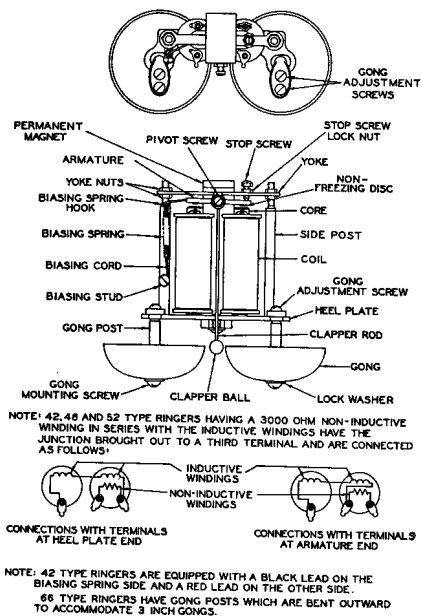

Fig. 1 - Typical Numbered Ringers
- 1.02 Each ringer consists of a cast, non-magnetic, alloy frame on which all the component parts are mounted. A typical ringer is illustrated in Figure 1. A laminated soft-iron core carries the single coil and is clamped to the soft-iron yoke which is bolted to the frame. The armature and clapper assembly is spring mounted to the frame so that the clapper may be vibrated by the armature, due to the magnetic field produced by the coil and yoke, to strike the gong(s). Increased sensitivity is provided by biasing the armature by means of a small permanent magnet clamped in the frame. A mechanical volume control is fitted on most types of ringer so that the user may adjust the sound output level. The coil is provided with flexible wire leads for connection to the other components in the telephone.